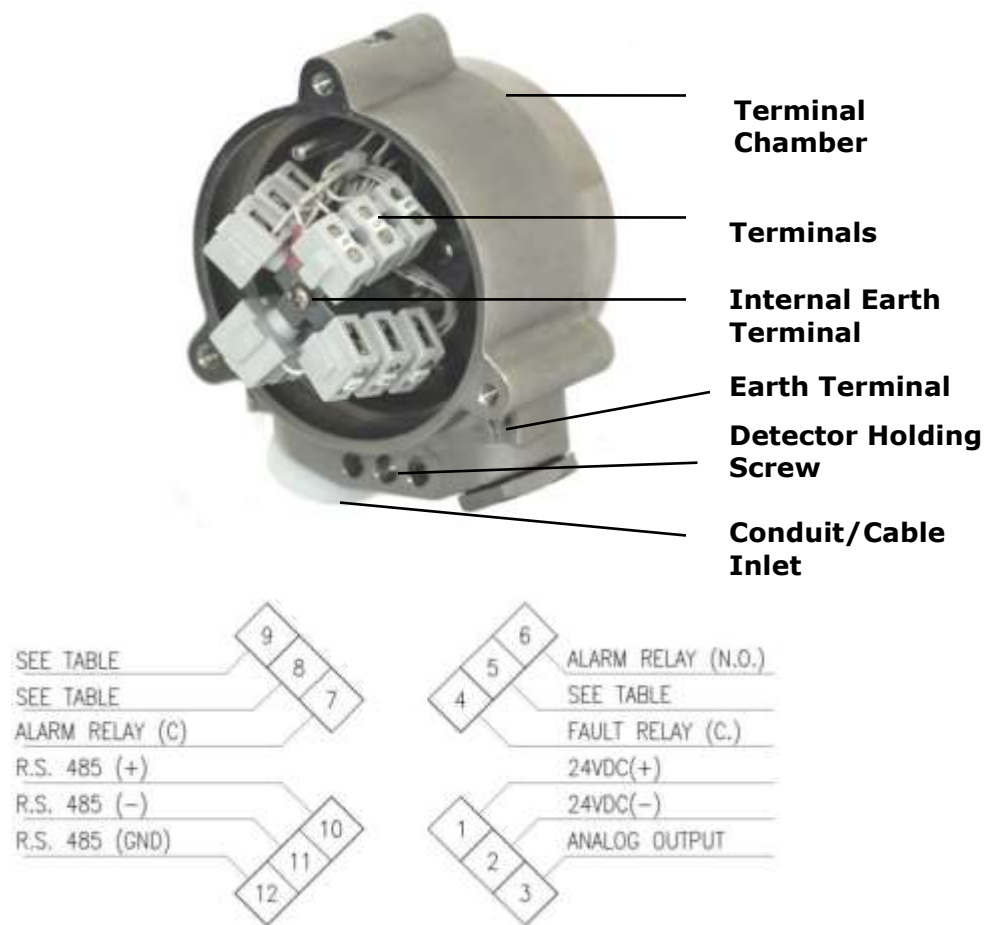

Figure 7: Detector with Cover Removed
This section describes how to connect the electric cabling to the detector (Figure 7).
- 5 Connect the wires to the required terminals on the terminal board according to the wiring diagram (Figure 7) and Table 13.
- 8** Check the wires for secure mechanical connection and press them neatly against the terminal to prevent them from interfering while closing the back cover (Figure 7).